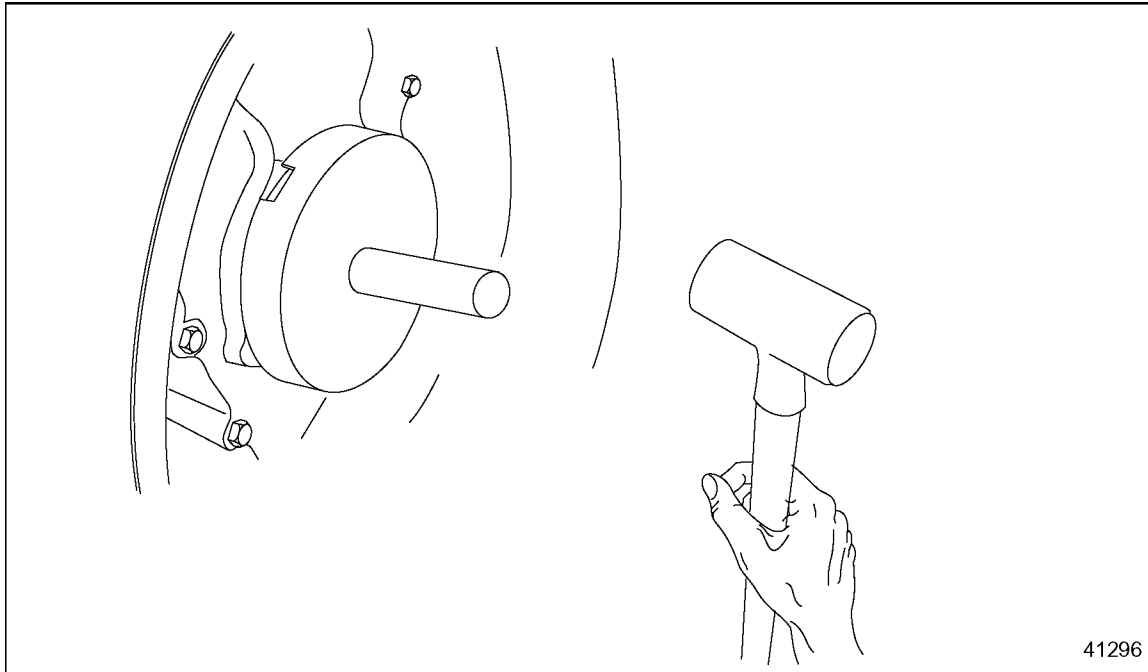

Figure 9-17 Installation of Shims
- [g] Hold the setting tool firmly against the drive hub; with a large hammer, hit the driver handle two to four times to set the gap between the crank and thrust washer. See Figure 9-17.